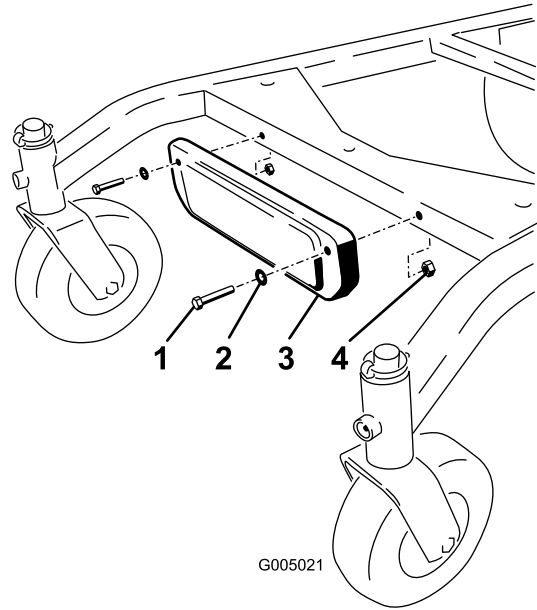
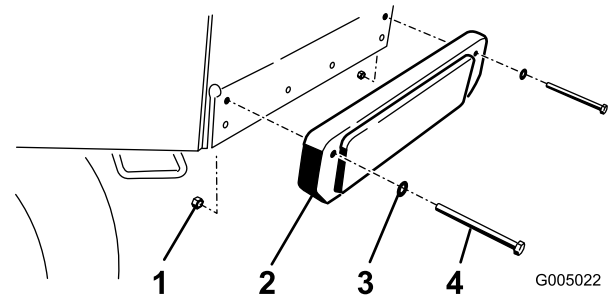

Figure 1
Figure 2
- Weights are installed to improve handling, balance and improve performance. Weights can be added, relocated or removed to create optimized performance under different mowing conditions and for operator preference (Figure 1 or Figure 2).
3. Install the weight to the mower with 2 bolts (find size in table), 2 washers (5/16 inch), and 2 nuts (5/16 inch) (Figure 1 or Figure 2).